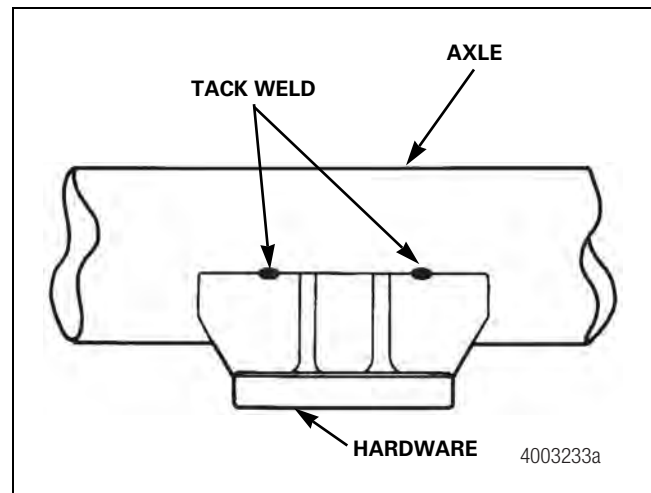

Figure 7.3
- Prior to applying final welds, hardware should be tack welded to the axle following recommendations provided by the component manufacturer. This will help minimize both axle distortion and residual stresses caused by final welds. After tack welding, clean up any weld slag, then fuse the tack welds into the final welds. Figure 7.3.